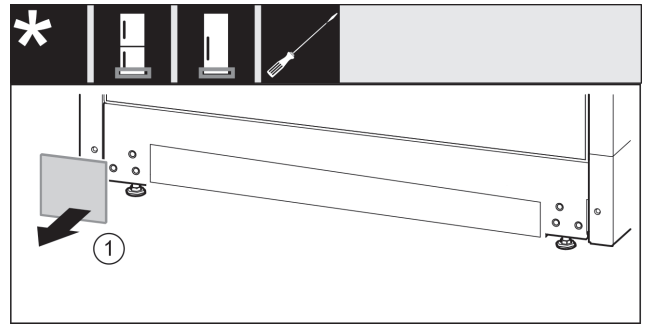

Fig. 17
- ▶ Take off the cover. *Fig. 17 (1)*